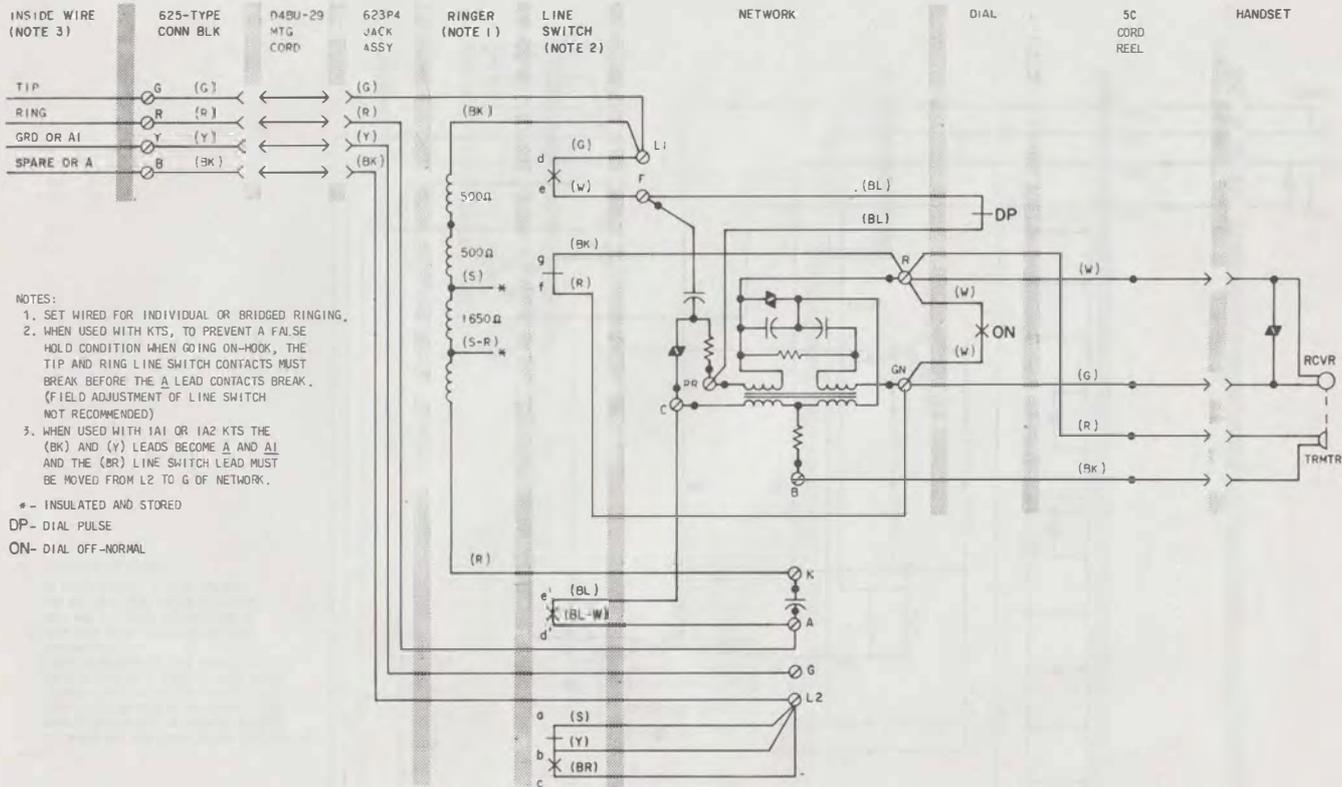

Fig. 2—911A1-03 Telephone Set, Connections
3.02 The internal connections for the 911A1 and 2911A1 telephone sets, for nonkey system use, are shown in Fig. 2 and 3, respectively.
3.03 Connections for 1A KTS require no telephone set modifications and are the same as Fig. 2 and 3.